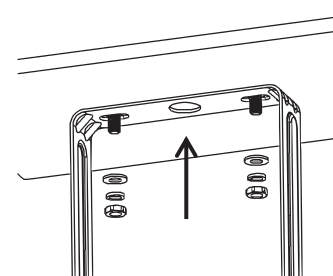

FIG 2.4
3. Install the ceiling bracket into the expansion screw corresponding to the hole position, then insert the flat washer and the spring washer, and lock the nut (FIG 2.4);